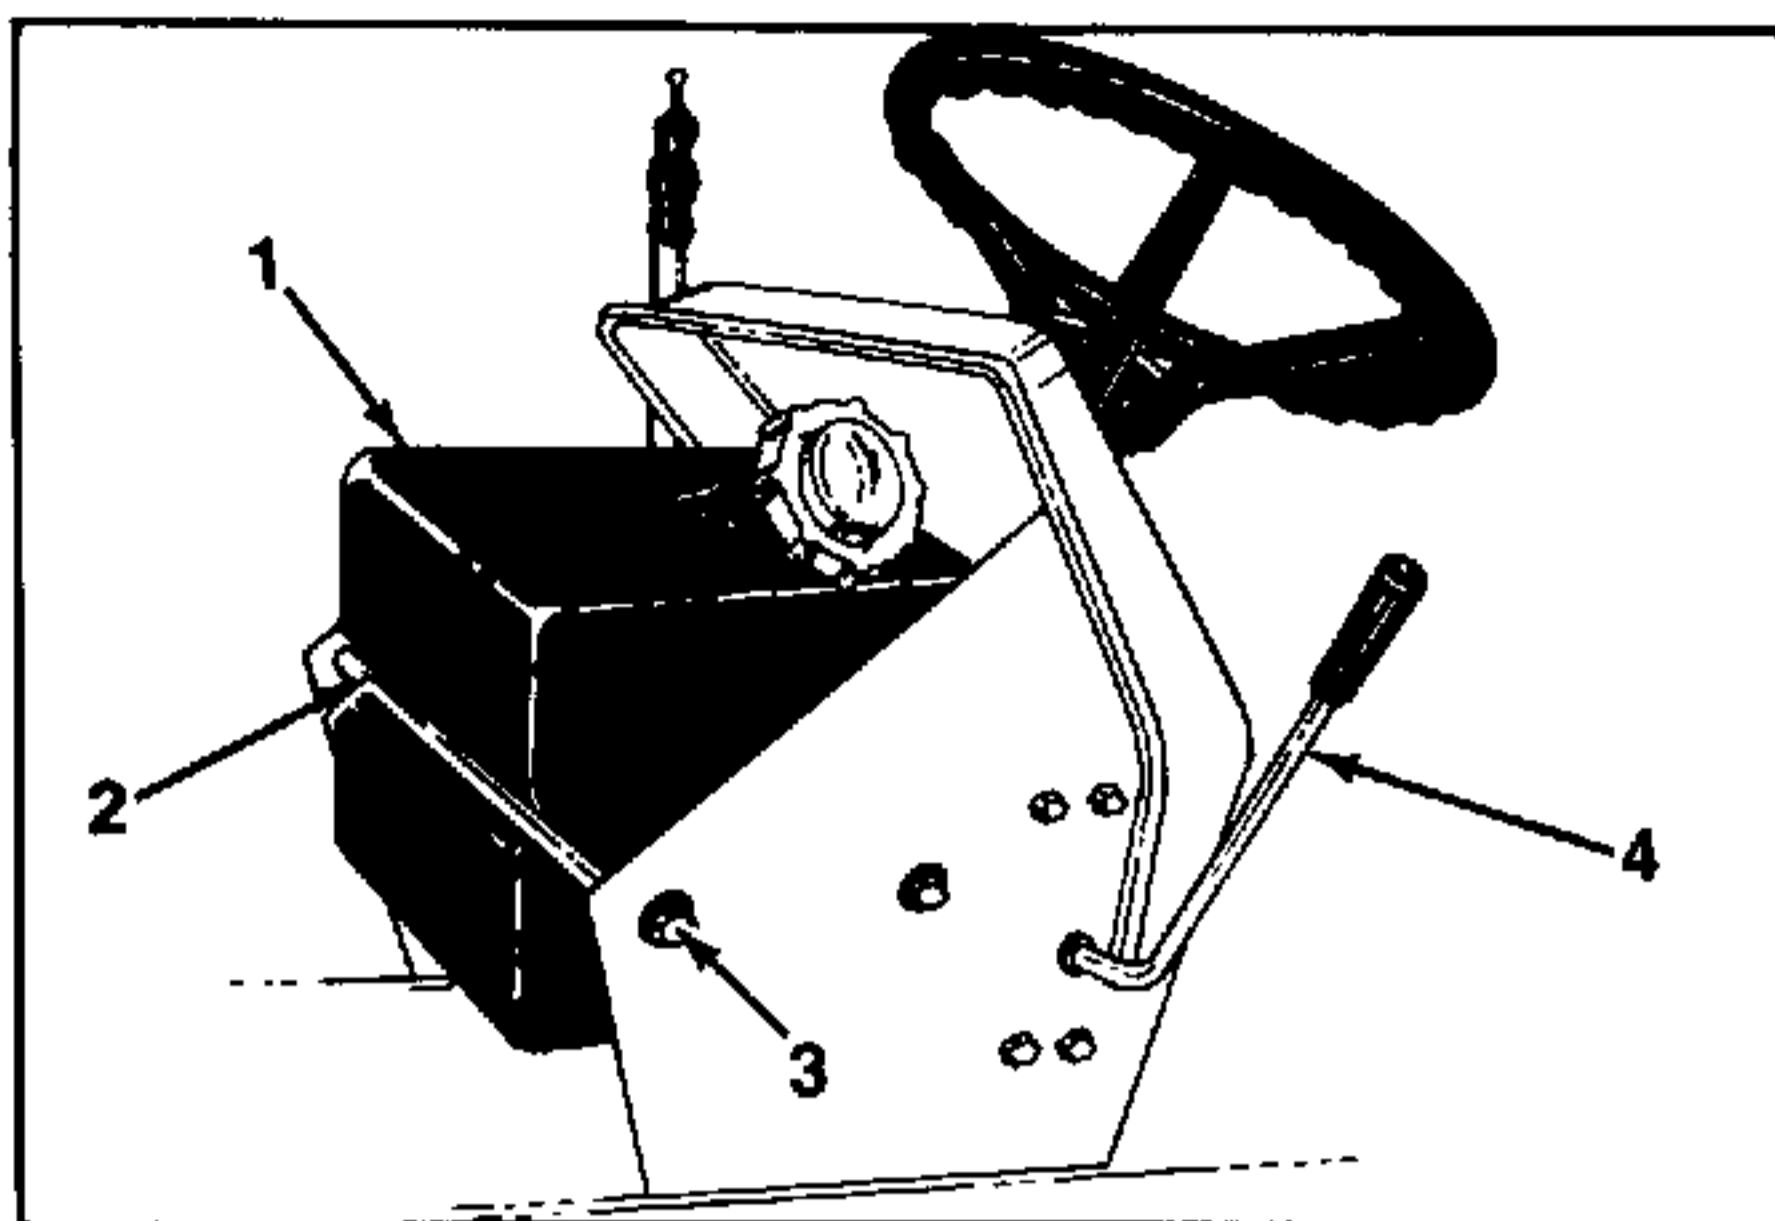

FIGURE 1.
2. Remove hex bolt from one end of fuel tank support rod. See figure 1.